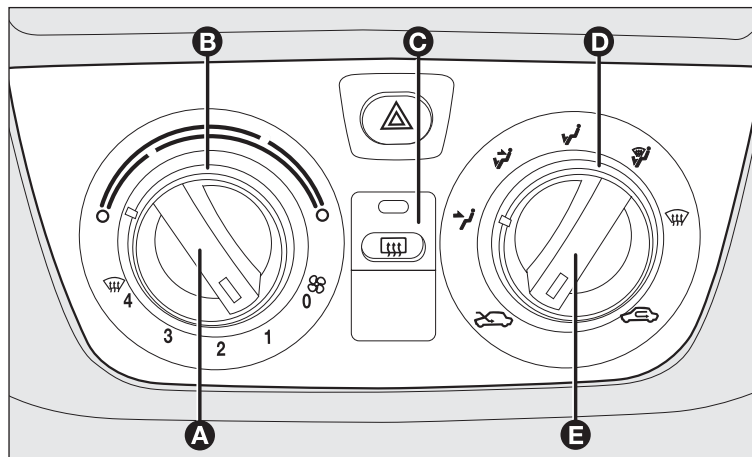

fig. 60
### CONTROLS fig. 60
The ring **D-fig. 60** is used to make fresh air reach the entire passenger compartment. There are five selections:
Turn the ring **B-fig. 60** (indicator pointing to the red sector) rightwards to turn the temperature up or leftwards to turn it down;
- turn the ring **B-fig. 60** to the blue sector;
- turn the ring **B-fig. 60** to the red sector;
- stop internal air recirculation by turning knob **E-fig. 60** to .
Press button **C-fig. 60** to activate the function. The LED in the button will light up when the function is on.